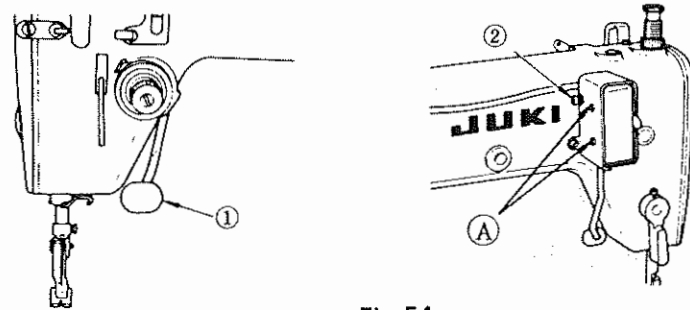

Fig. 54
Loosen screw ② (fig. 54), and move the switch lever up and down to obtain a suitable height.
- Be careful not to overtighten screws ① (Fig. 54), or else the switch cover may break.